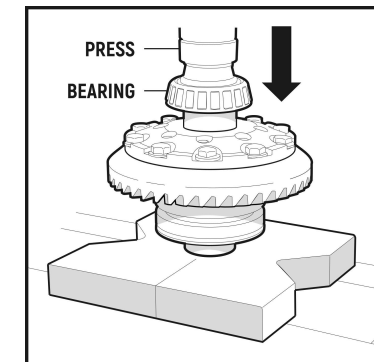

Fig. 22
**2.10** Press the bearings onto the assembly and install the outer races in accordance with the previously applied markings. (Fig. 22)